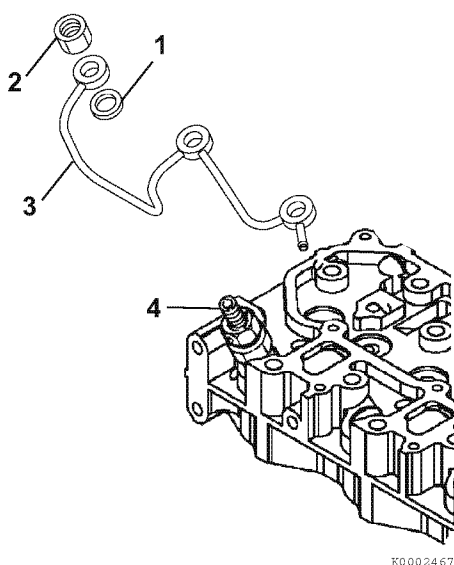

Figure 7-11
3. Remove all fuel return line nuts (**Figure 7-11, (2)**) from the injectors (**Figure 7-11, (4)**).
5. Carefully remove the fuel return line assembly (**Figure 7-11, (3)**).
6. Remove and discard the copper gasket (**Figure 7-11, (1)**) from each fuel injector.